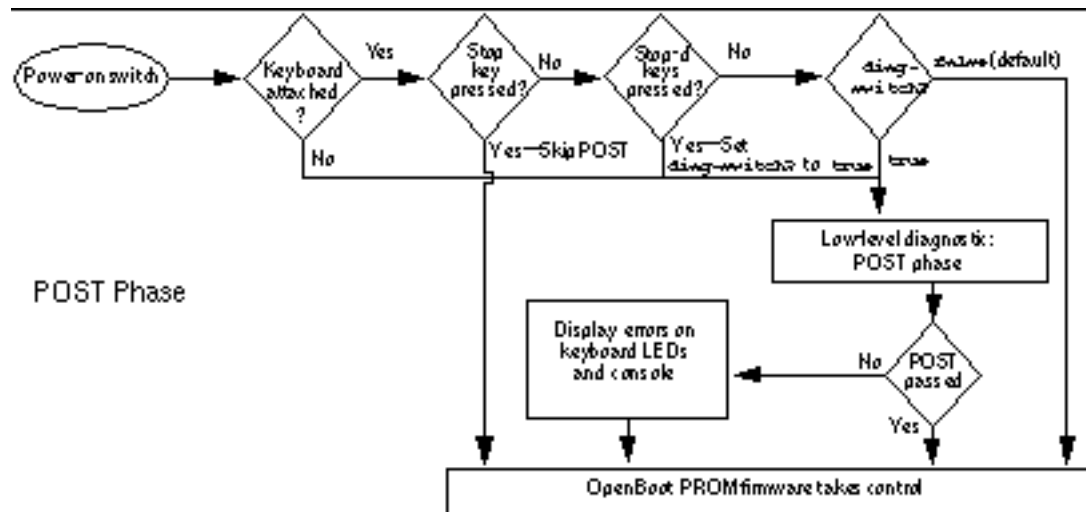
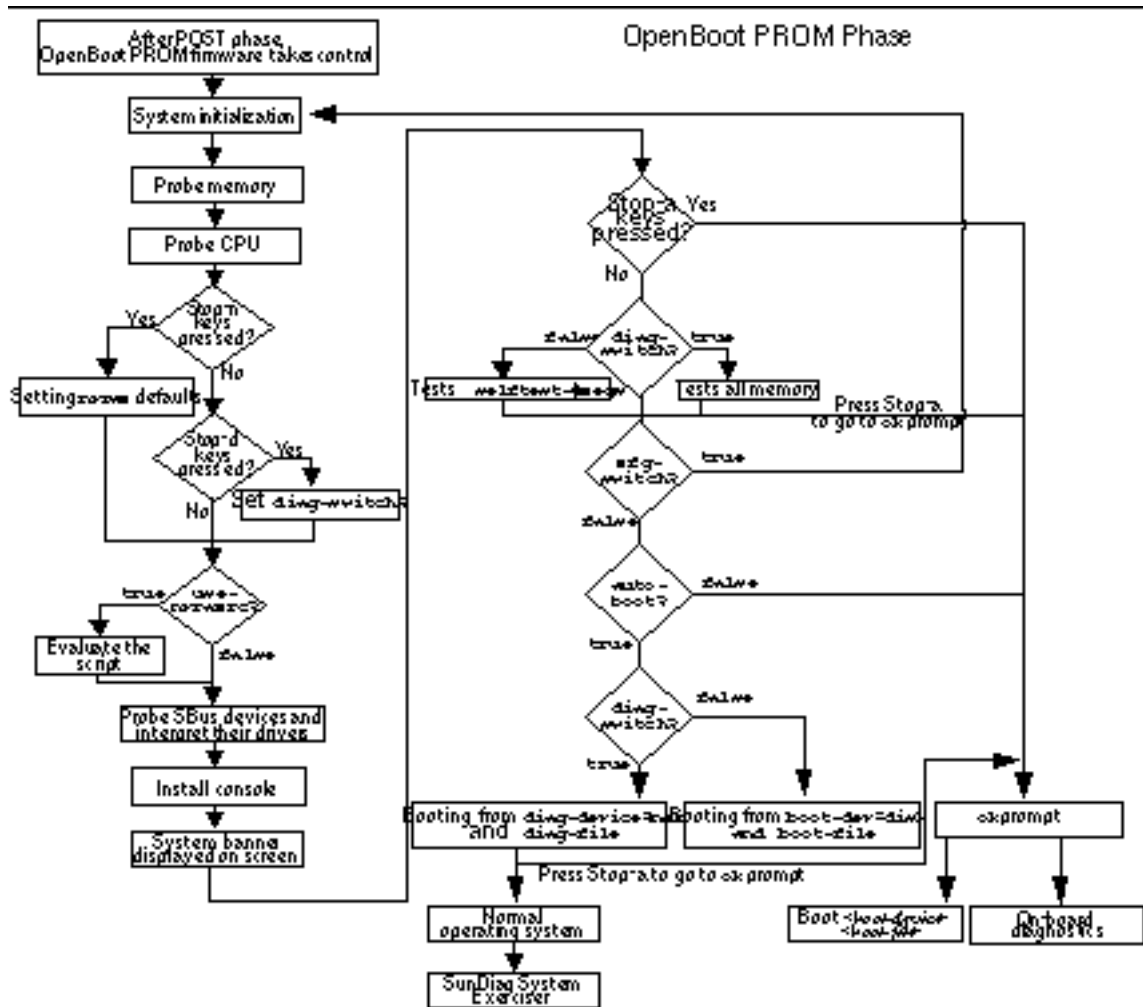

Figure 2-1 Factory-Defined Boot Sequence—POST Phase Settings and Tests
Figure 2-2 Factory-Defined Boot Sequence—OpenBoot PROM Phase Settings and Tests
The flowcharts in Figure 2-1 and Figure 2-2 outline the roles played by various diagnostics during a *factory-defined boot* operation under the control of the OpenBoot™ PROM (OBP) firmware.
Figure 2-1 (POST phase) and Figure 2-2 (OBP phase) graphically depict the flow of OBP processing control, after power is switched on. Each figure depicts the possible paths for processing control, and the switch settings for the factory-defined boot
- Install the console (see Figure 2-2)